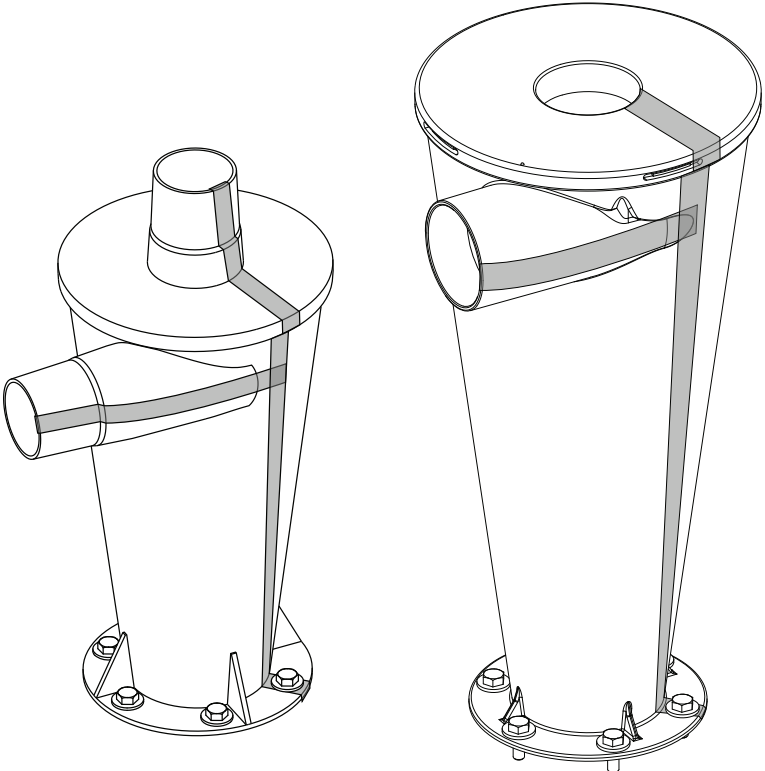

FIG. 11
Install the Metal Tape (D) to the Cyclone (A) so that the inlet, outlet, and flange are attached by a continuous, conductive path. The tape should wrap 1/4" around the edge of each opening [FIG 11].